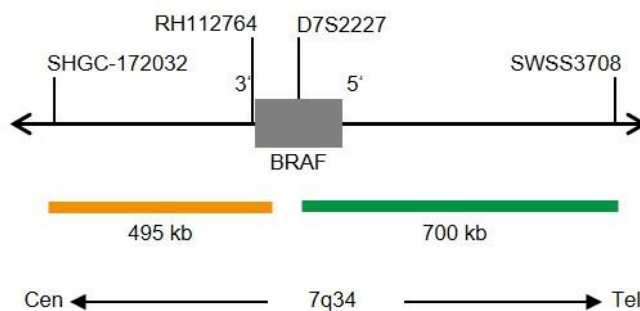

Fig. 1: SPEC BRAF Probe map (not to scale)
- ZyGreen (excitation 503 nm/emission 528 nm) labeled polynucleotides (~10 ng/μl), which target sequences mapping in 7q34\* (chr7:140,535,100-141,233,856) distal to the BRAF breakpoint region (see Fig. 1).
- ZyOrange (excitation 547 nm/emission 572 nm) labeled polynucleotides (~4.5 ng/μl), which target sequences mapping in 7q34\* (chr7:139,972,721-140,469,362) proximal to the BRAF breakpoint region (see Fig. 1).